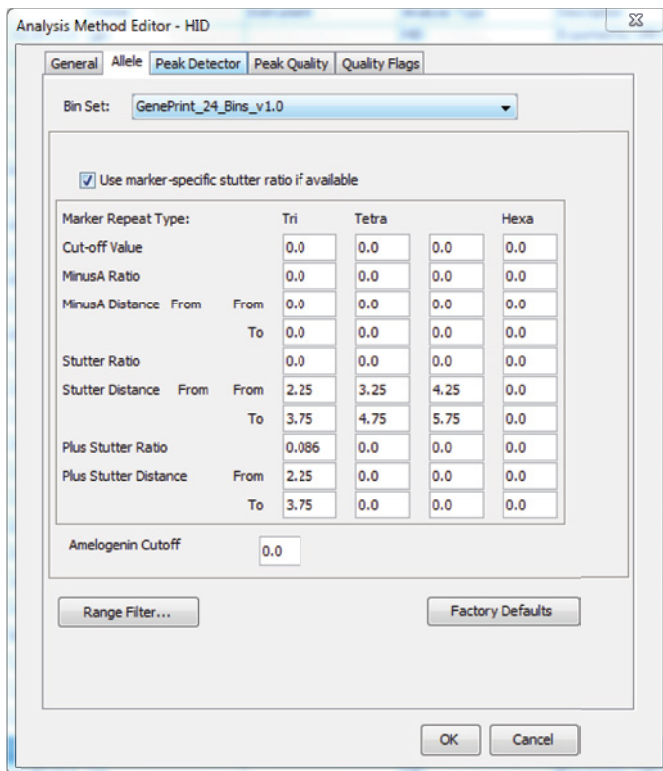

Figure 16. 'Allele' Tab settings.
5. To verify the correct bin settings, locate the new *GenePrint*[®] 24 Analysis Method at the bottom of the list of methods. Select the analysis method, and choose **Open**. Select the 'Allele' tab, and choose **GenePrint_24_bins** from the drop-down menu at the top if it does not already appear. Verify that all settings appear as shown in Figure 16.